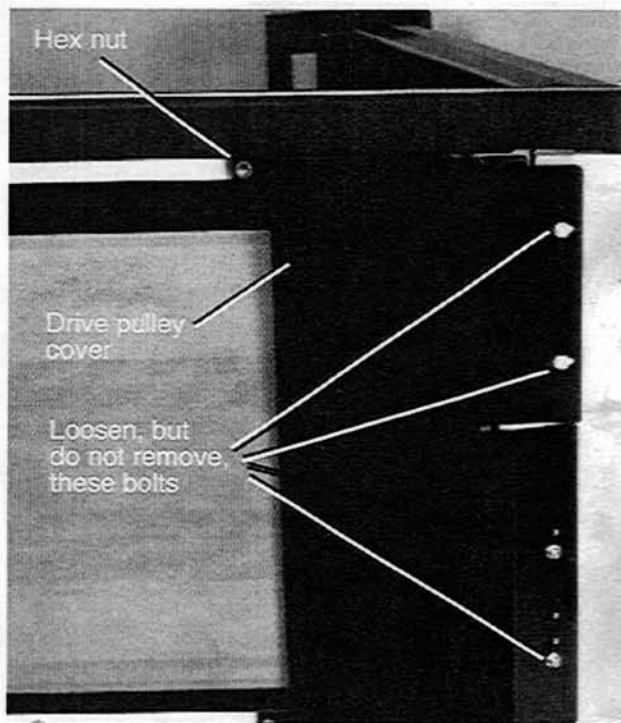

Figure 3-22. Drive Pulley Cover and Bolts
4. Loosen, *but do not remove*, the two 7/16" hex-head bolts that fasten the front of the drive roller cover to the treadmill headframe. They are located beneath the treadmill (Figure 3-22).